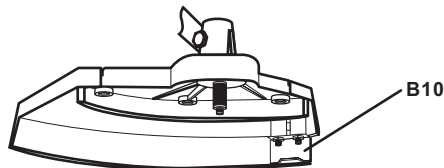

Fig. 27d
10. A line cutter (B10) is integrated with the trimming guard (B9) and this will cut the line to the necessary length. (See Fig. 27d)